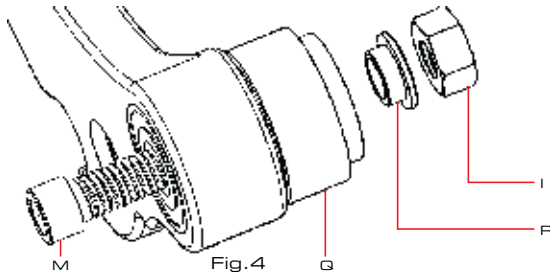

Fig.4
- B Orient the tools as seen in Fig. 4. Use the special M6 bolt, with 8mm head, included in the tool kit.